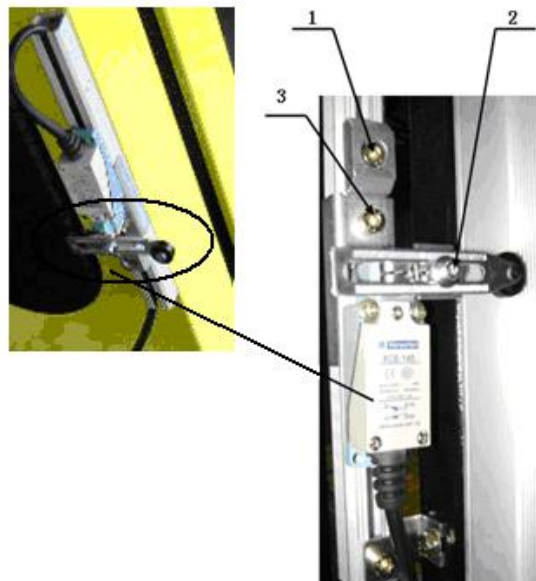

FIG 3-1
- Loosen the nuts (FIG 3-1, POS 3).
- Nut (FIG 3-1, POS 2) can adjust the switch contacts leftward and rightward.
- Nut (FIG 3-1, POS 1) is a limit block nut used for locating when replacing the travel switch.